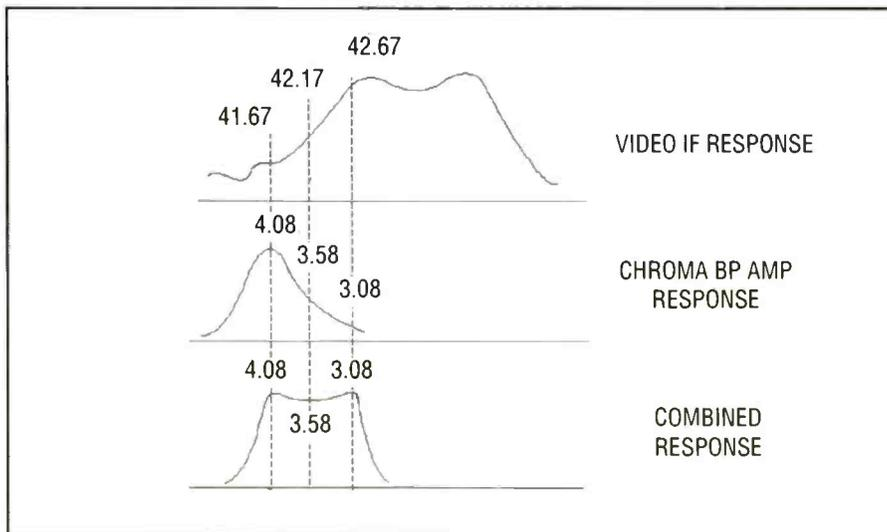

Figure 1. Peaking is used in the chroma bandpass amplifier at about 4.08Mhz to compensate for the sloping part of the video IF curve that contains the color.
- Peaking is used at about 4.08Mhz to compensate for the sloping part of the video IF curve that contains the color, as shown in Figure 1.